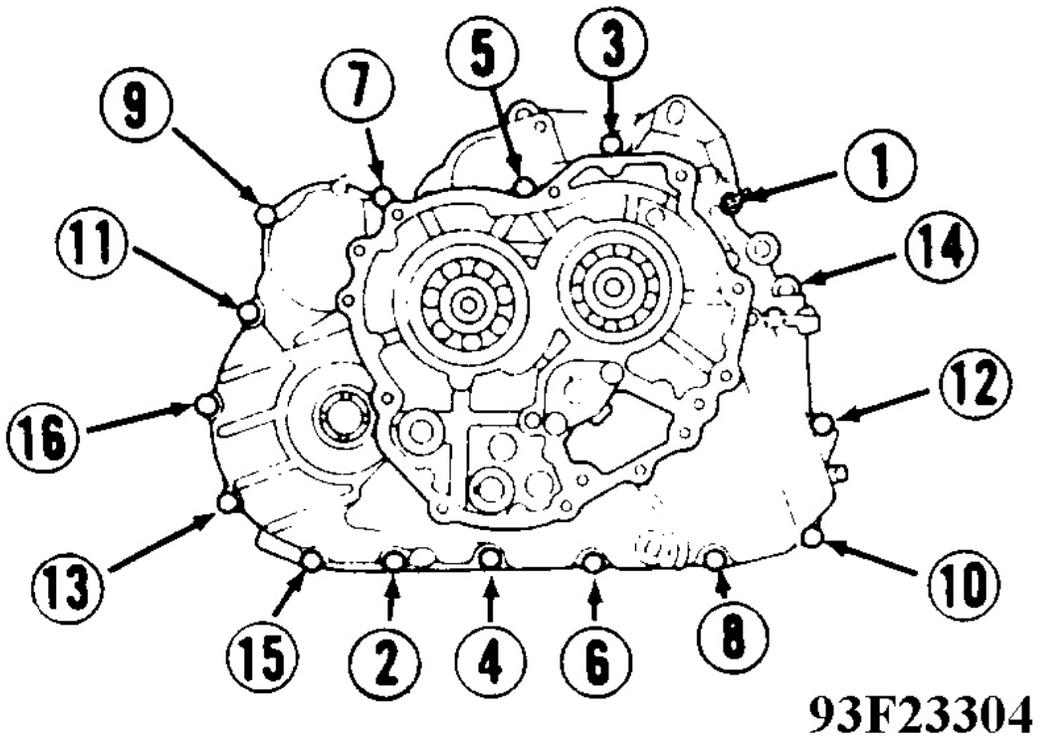

Fig. 30: Transaxle Housing Bolt Tightening Sequence
bolts in sequence to 25 ft. lbs. (34 N.m). See **Fig. 30**.
- Using feeler gauge, measure differential bearing side clearance between snap ring and bearing on transaxle housing. See **Fig. 30**. Replace snap ring in transaxle housing if differential bearing side clearance exceeds .004" (.10 mm). Different thickness snap rings are available. See SNAP RING SPECIFICATIONS table.